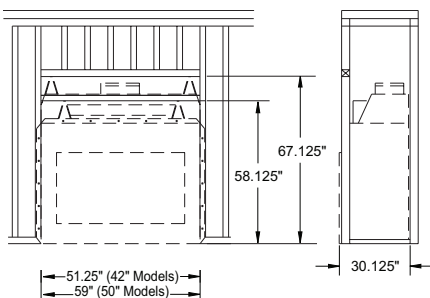

Figure 3 - Framing Dimensions
1. Frame opening for fireplace using dimensions shown in Figures 3 and 4.